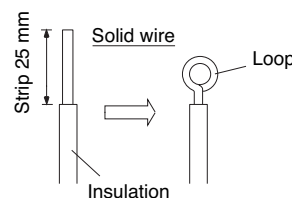

Fig. 24c
- (1) Cut the wire end with a cutting pliers, then strip the insulation to expose the solid wire about 25 mm. (Fig. 24c)
- (2) Using a screwdriver, remove the terminal screw(s) on the terminal plate.
- (3) Using the pliers, bend the solid wire to form a loop suitable for the terminal screw.
- (4) Shape the loop wire properly, place it on the terminal plate and fix it securely with the removed terminal screw using a screwdriver.